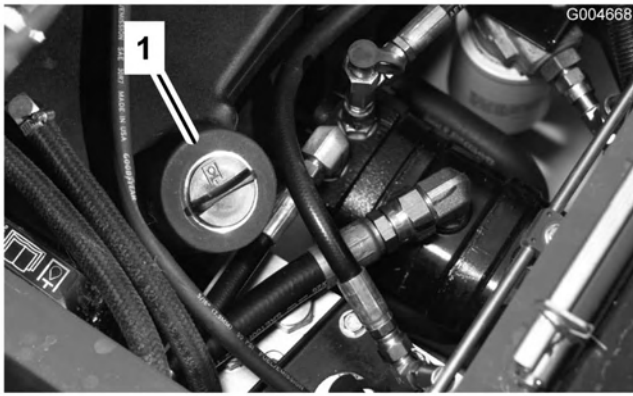

Figure 9
- Clean the area around the filler neck and cap of the hydraulic tank (Figure 9). Remove the cap from the filler neck.